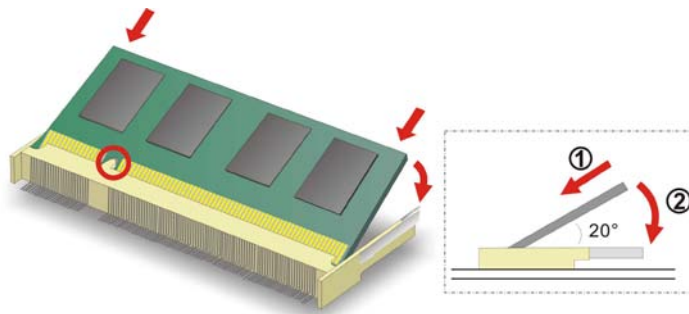

Figure 4-1: SO-DIMM Installation
To install an SO-DIMM, please follow the steps below and refer to Figure 4-1.
- Step 3:** **Insert the SO-DIMM.** Push the memory in at a 20° angle. (See Figure 4-1)
- Step 4:** **Seat the SO-DIMM.** Gently push downwards and the arms clip into place. (See Figure 4-1)